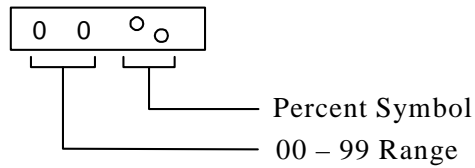

Figure 19: 4-20 mA or 0-10 Vdc Output Display In Percent
3.	Press the ▼ DOWN ARROW key and the display will appear, as shown in Figure 19.